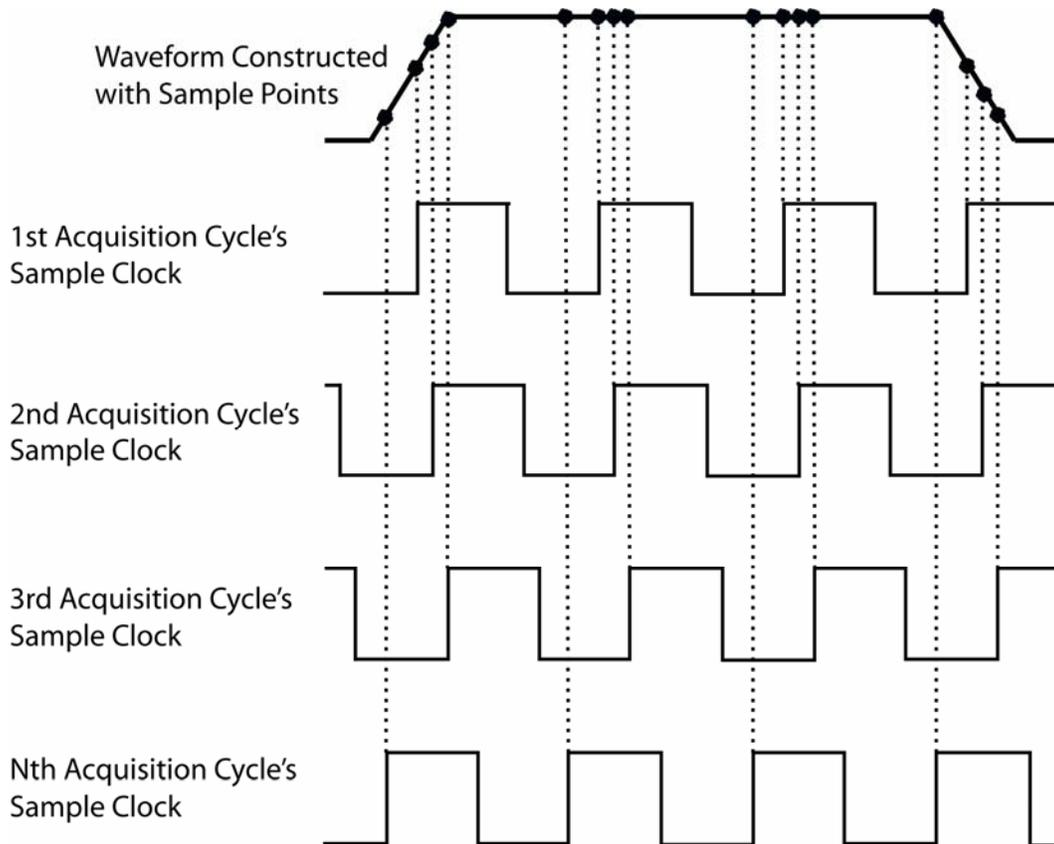

Figure 13: Equivalent Time Acquisition
- In Equivalent-Time mode, a picture of a repetitive waveform is constructed by capturing a little bit of information from each repetition. This enables waveforms to be reconstructed at equivalent-time sample rates greater than the real-time sample rate (See Figure 13). Because the points appear randomly along the waveform, it is important to note that an entire waveform may not be constructed unless there are sufficient repetitions. Also, the number of points per point (selectable from 2 to 100) can be set to increase the resolution of the waveform. (See the *Average Equivalent Time Points Command*).